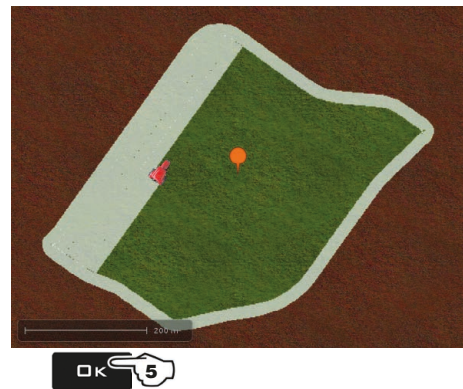

Fig. 354
- 5 Press **OK** to confirm (Fig. 354).